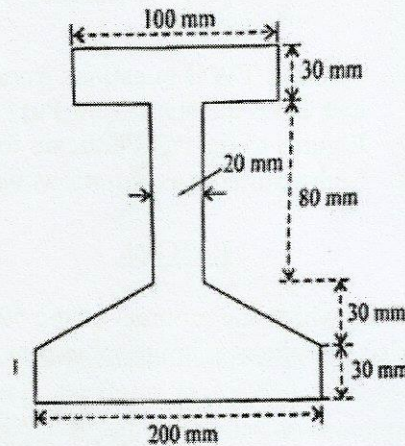

Figure Q2 (b)
2. a) State the Principle of Transmissibility of forces, Also explain the principle with the help of an example. (04)
- b) For the plane lamina shown in Figure Q2 (b). Calculate the Moment of Inertia of the about Centroidal XX axis and Centroidal YY axis. (16)